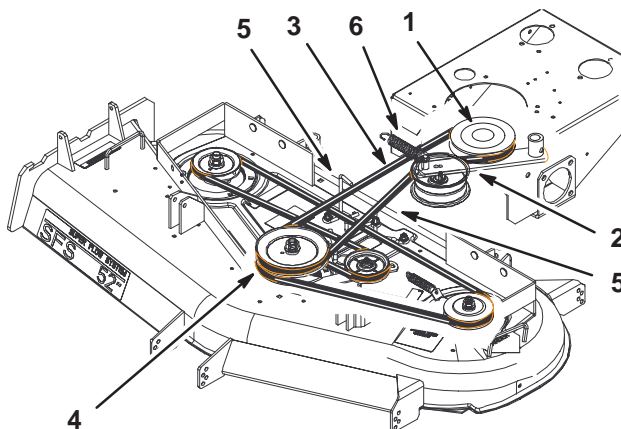

Figure 65
5. Remove the idler spring from idler arm. Remove the drive belt from the PTO engagement pulley and the center spindle pulley (Fig. 65).
6. Remove the worn drive belt (Fig. 65).
7. Install the new drive belt onto the PTO engagement pulley and the top groove of the center spindle pulley (Fig. 65).
8. Install belt onto idler pulley and then install idler spring (Fig. 65).
9. Adjust PTO drive belt guides an 1/8 in. (3 mm) from belt (Fig. 65).